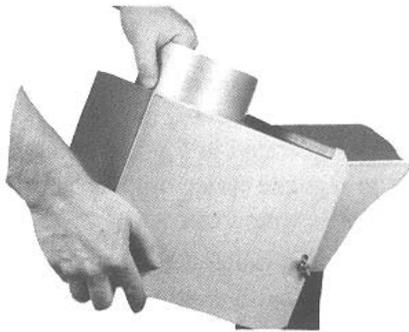

Figure 21: Draft Hood Attachment
2. Position Draft Hood on Canopy Rear Flange. See Figure 21. Top canopy flange must fully engage "U"-shaped draft hood flange for proper installation and operation. Care must be taken to assure that draft hood is level.